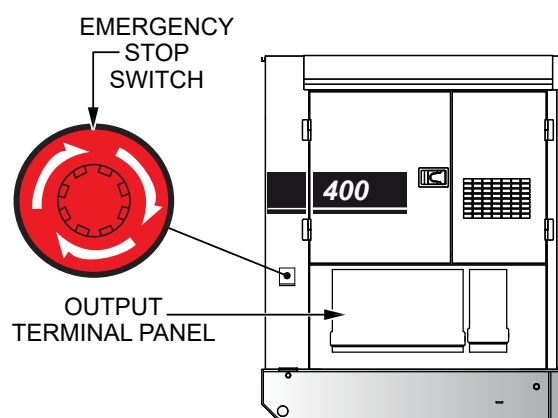

Figure 50. Emergency Stop Switch
1. To stop the engine in the event of an emergency, push the **Emergency Stop switch** (Figure 50). This switch is located on the side of the generator next to the output terminal panel.